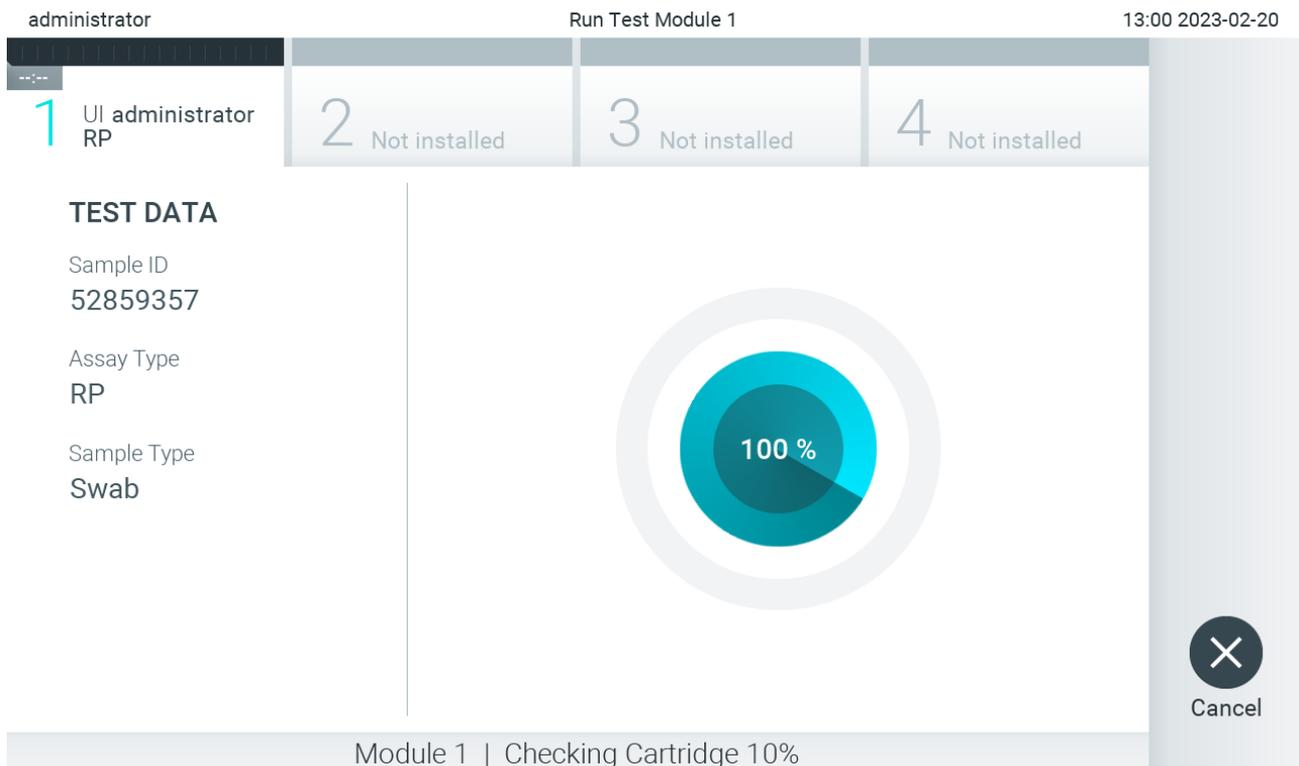

Figure 28. Test execution and remaining run time display.
- While the test is running, the remaining run time is displayed on the touchscreen (Figure 28).